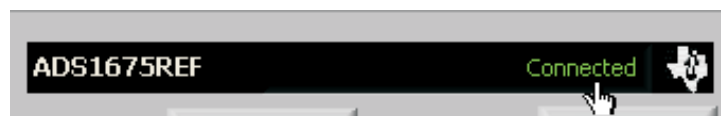

Figure 5. ADS1675REF Plug-in Status Information Display Window
Step 3. The ADS1675REF plug-in window has a status area at the top of the screen. When the plug-in is first loaded, the plug-in searches for the board. You will see a series of messages in the status area that indicate this action, such as *Connected* (as Figure 5 illustrates).